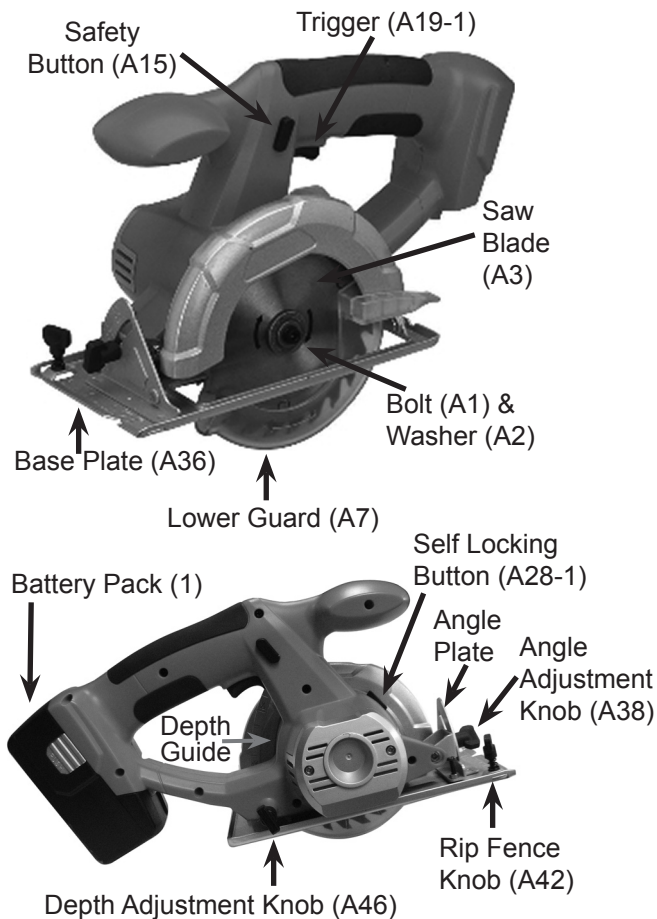

Figure A1
- **DO NOT** install the Battery Pack (1) until **AFTER** you complete the following steps to set up the Circular Saw for use.
- Refer to Figure A1 for the location of the parts of the saw for the following steps.
2. Secure the Blade in place by depressing the Self-Locking Button (A28-1). Use the Hex Wrench (A45) (not shown in Figure A1) to remove the Bolt (A1), unthreading in a clockwise direction.
2. Position the Rip Fence (A35) (not shown in Figure A1) so that the top of the "T" shape is facing down.